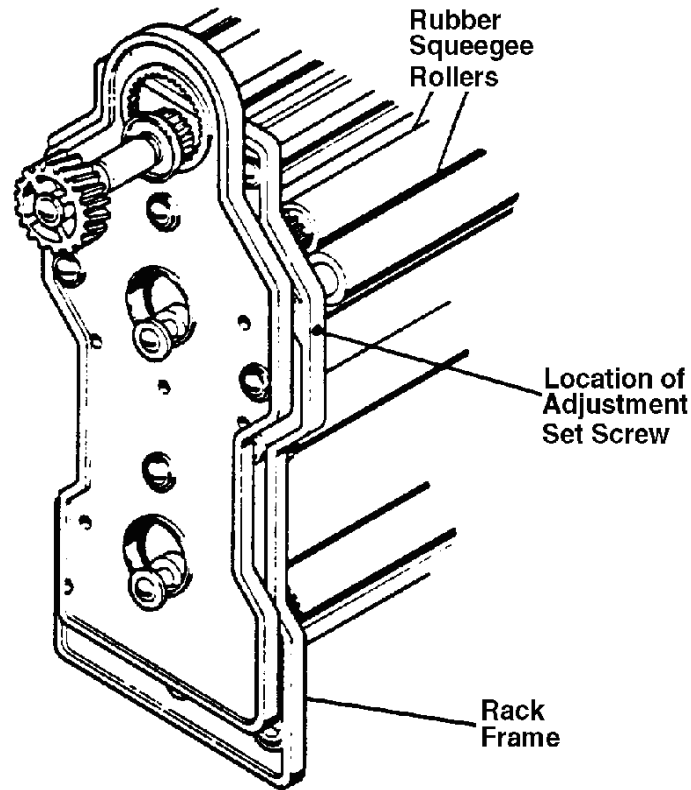

Figure 1-5. Squeegee roller adjustment.
(4) Change the developer and/or fixer, if due, based on the recommendations of the chemicals supplier. If not due, go to step (5). Follow these steps when changing chemicals.
- (e) Adjust the rubber squeegee roller on the wash rack. To do this you tighten or loosen the set screw in the rack frame just opposite the roller bearings. A piece of paper inserted between the rollers should just "drag" when the rollers are adjusted correctly. Be sure to check on both ends of the rack to assure that the rollers are parallel. See figure 1-5.
(f) Check the squeegee roller tension. To minimize drying streaks or water marks on film, slightly increase the tension on the exit squeegee rollers. Do this by inserting film between the rollers. Tighten the set screws on the rack side plates with a 5/64-inch Allen wrench until the film just drags on the rollers as you remove the film. Refer to figure 1-5. Make certain that the squeegee rollers are parallel after you have made the adjustment. Ensure that excessive drag does not cause the rack to bind. After making the squeegee adjustment, manually turn the rack worm gear (main rack gear) by hand. Make certain the lower squeegee roller is being driven. If it is not, tighten the set screws.